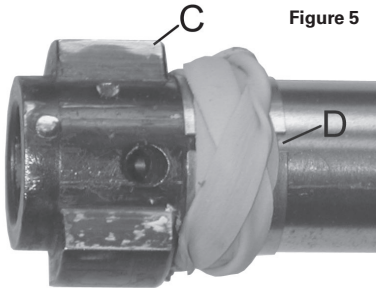

Figure 5
5. Attach the front shims in the same manner. Make sure the forward edges of the front shims are tight against bolt lugs (C). Then, using a straight edge, align the front shims so gap (D) is inline with the rear shim gap. (See Figure 5).